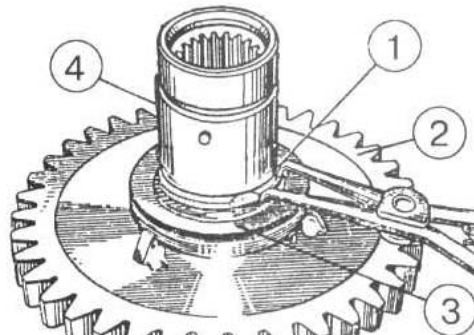

Figure 4.29
- h) remove ring 1 (Figure 4.29) that locks gear 2 on shaft 4;